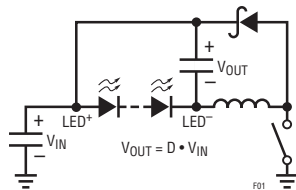
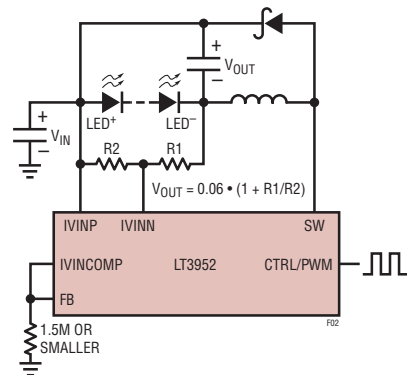

Figure 1. Buck Mode Topology
Figure 2. IVINP, IVINN as Output Voltage Limit
25 ns for silicon power MOSFETs—can reportedly be reduced by 80%, to 5 ns or less (*Fig. 1*). This means that the turn-on and turn-off delay, as well as the rise and fall times for eGaN FETs, will be much faster and contribute less to signal distortion. Very low THD+N also can be achieved, while minimizing Transient Intermodulation Distortion (T-IMD) and the EMI emissions from the amplifier. The EPC9106 reference design has demonstrated 96% efficiency at 150 W / 8  $\Omega$ , and 92% efficiency at 250 W / 4  $\Omega$ .
The trick is to repurpose the input current sense amplifier on the IVINP/IVINN pins to act as a high side voltage regulator as shown in Figure 2.
A resistor divider across the LED string allows the IVINP/IVINN pins to sense the output voltage. When the IVINP/IVINN voltage reaches 60mV, the IVINCOMP output reaches 1.2V and the output is limited. Tying IVINCOMP to FB, as shown in Figure 2, adds the benefits of output overvoltage protection and open LED protection.
**Y**ou sit down at your lab bench to debug some funny behavior in a 10-MHz clock. You fire up your oscilloscope, get your probing in place, and hit the almighty *Auto Scale* button, after which you're presented with something like what you see in Fig. 1.
The sole responsibility of the trigger system is to tell the rest of the oscilloscope what data to care about. It decides when the acquisition system begins acquiring, which means that by default it decides what's displayed on screen and what data is available to make measurements on. It can make these decisions with a very simple set of conditions or very complex conditions, based on user input. Let's consider the example in Fig. 1, a 10-MHz square wave. The reason the signal in the image looks so clear and well-positioned on-screen is that the trigger is set up, appropriately, to look for a rising edge on Channel 1, as seen in the trigger configuration dialog in Fig. 2.